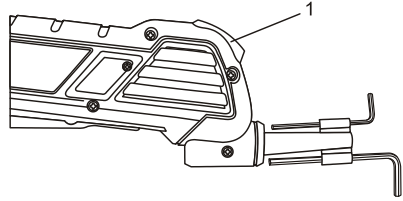

Fig. 7
NOTE: The red "power on" light (1) on the rear of the tool handle will illuminate when power is "live" (Fig. 7).